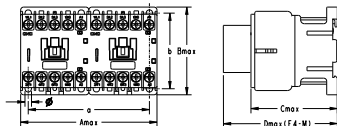

Figure 2 Installation and overall dimensions of CJX2s-M06N~M16N series AC contactor
4.2 See Figure 2 and Table 3 for the installation and overall dimensions of CJX2s-M06N~M16N series directional AC contactors.